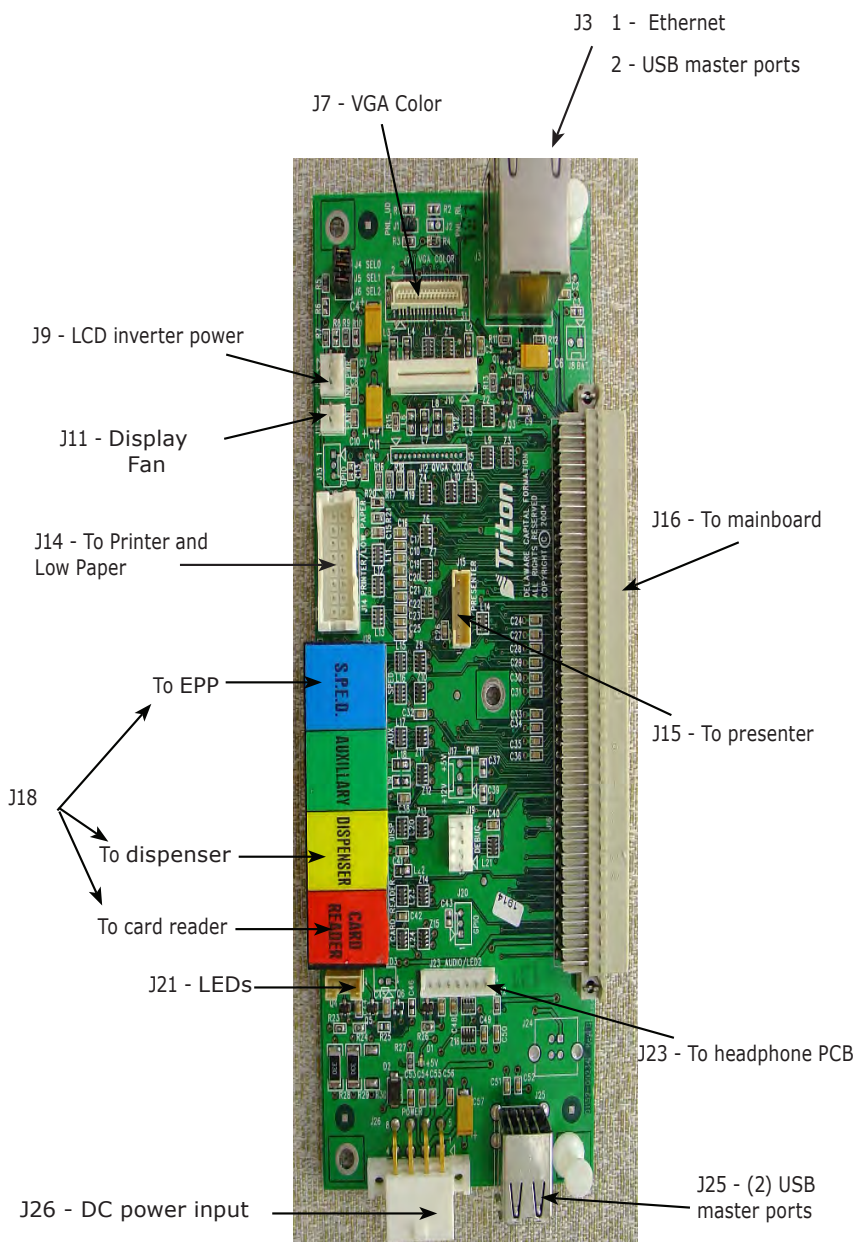

Figure 3-29b. Rev B X-scale Docking Board connector layout.
3. Push the AC power ON/OFF switch to the OFF(0) position.
5. Refer to Figure 3-29b. Carefully unplug all of the cables from the docking board.
3. Refer to Figure 3-29b. Reconnect all of the cables to the docking board.
5. Push the AC power ON/OFF switch to the ON(1) position.